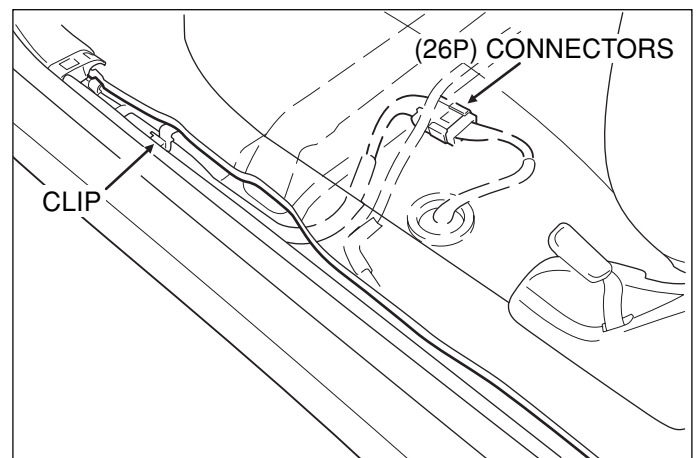

Fig. H4
- ➔ i. Release the carpet clip. (Fig. H4)
- ➔ ii. Unplug the vehicle's (26P) connectors. (Fig. H4)